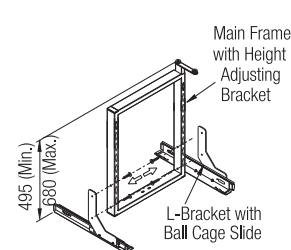

Fig. 4
4. Screw the Main Frame assembled with Height Adjustment Bracket onto the L - Bracket as shown in Fig. 4.